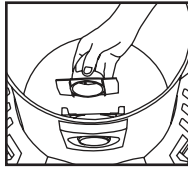

FIGURE 23
31. Remove the inlet deflector from the deflector guide. **NOTE:** Hose must be removed before the inlet deflector can be taken out. **FIGURE 23.**